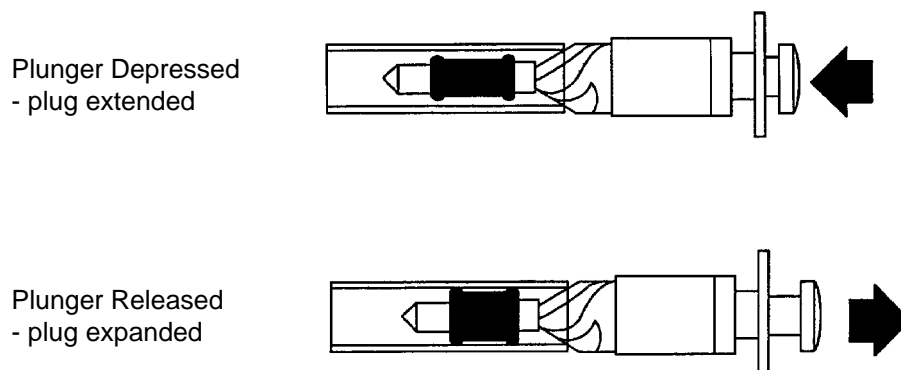

Figure 5 - Use of Plunger Type Deburring Tools
- Step 2. Depress the tool plunger to extend the plug and insert it into the tube until the cutters contact the tube end (see Figure 5).